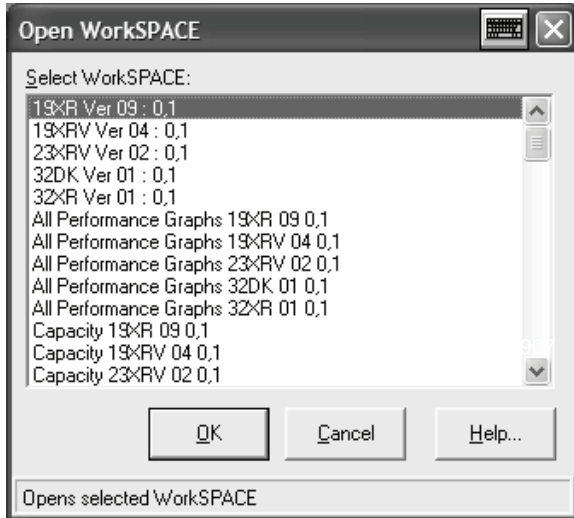

Fig. 16 — Open Workspace
15. From the “Open WorkSPACE” screen, open the default workspace for the chiller that is the same version as your local chiller (Fig. 16). It is important to use the same type and version number of your chiller or the cloning tool will not clone all the workspaces and viewspaces. Otherwise, an error response will be generated indicating the chiller versions do not match.